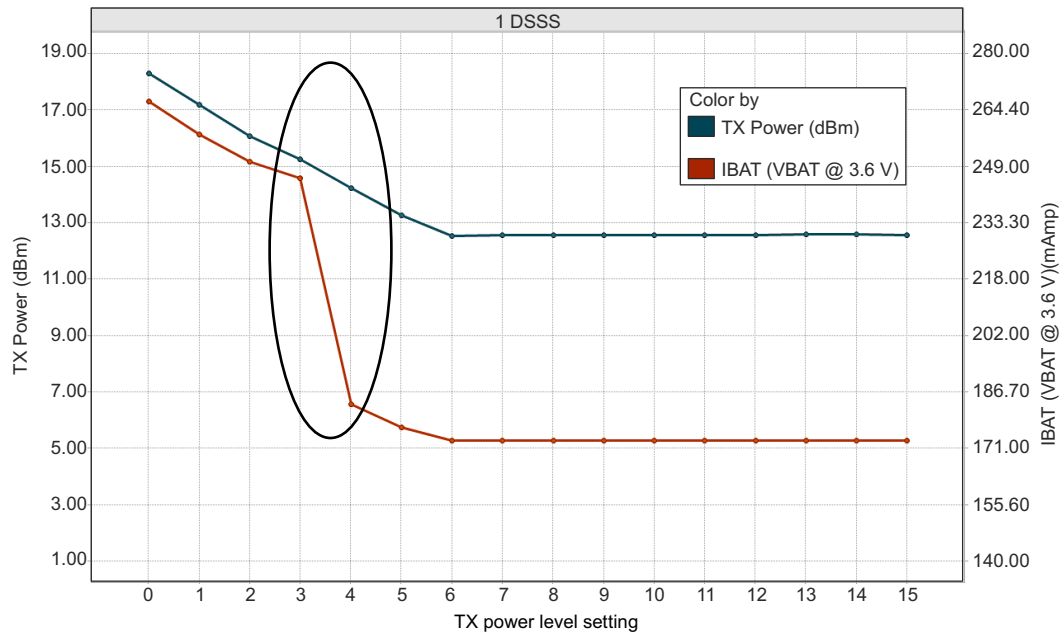
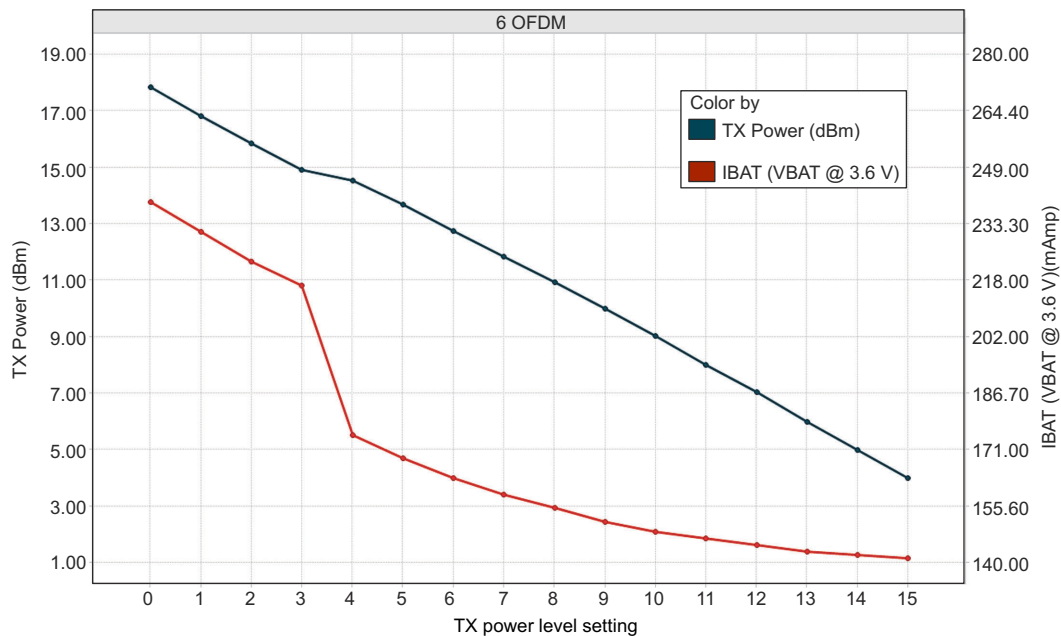
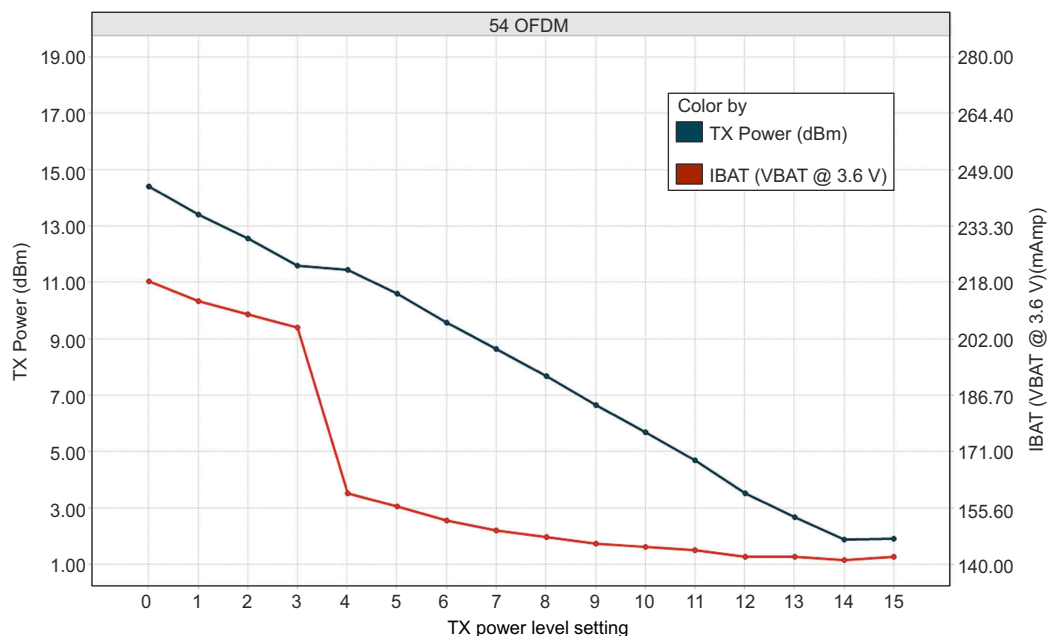

图 7-1. TX Power and IBAT vs TX Power Level Settings (1 DSSS)
图 7-2. TX Power and IBAT vs TX Power Level Settings (6 OFDM)
图 7-3. TX Power and IBAT vs TX Power Level Settings (54 OFDM)
- (1) TX power level = 0 implies maximum power (see 图 7-1, 图 7-2, and 图 7-3). TX power level = 4 implies output power backed off approximately 4 dB.
- (2) The CC3135 system is a constant power-source system. The active current numbers scale based on the  $V_{BAT}$  voltage supplied.
- (3) The RX current is measured with a 1-Mbps throughput rate.
- (4) DTIM = 1
- (5) The complete calibration can take up to 17 mJ of energy from the battery over a time of 24 ms. In default mode, calibration is performed sparingly, and typically occurs when re-enabling the NWP and when the temperature has changed by more than 20°C. There are two additional calibration modes that may be used to reduced or completely eliminate the calibration event. For further details, see CC31XX CC32XX SimpleLink™ Wi-Fi® and IoT Network Processor Programmer's Guide.
(1) TX power level = 0 implies maximum power (see 图 7-1, 图 7-2, and 图 7-3). TX power level = 4 implies output power backed off approximately 4 dB.
(2) The CC3135 system is a constant power-source system. The active current numbers scale based on the  $V_{BAT}$  voltage supplied.
(3) The RX current is measured with a 1-Mbps throughput rate.
(4) DTIM = 1
(5) The complete calibration can take up to 17 mJ of energy from the battery over a time of 24 ms. In default mode, calibration is performed sparingly, and typically occurs when re-enabling the NWP and when the temperature has changed by more than  $20^\circ\text{C}$ . There are two additional calibration modes that may be used to reduced or completely eliminate the calibration event. For further details, see CC31XX, CC32XX SimpleLink™ Wi-Fi® and IoT Network Processor Programmer's Guide.
图 7-1, 图 7-2, and 图 7-3 show TX power and IBAT versus TX power level settings for the CC3135 device at modulations of 1 DSSS, 6 OFDM, and 54 OFDM, respectively.
In 图 7-1, the area enclosed in the circle represents a significant reduction in current during transition from TX power level 3 to level 4. In the case of lower range requirements (14-dBm output power), TI recommends using TX power level 4 to reduce the current.